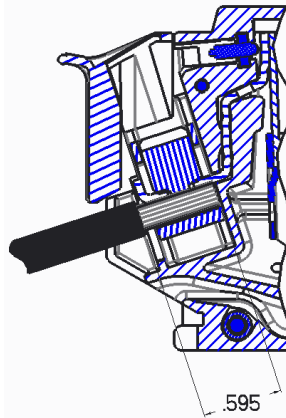

Figure 3: Stripped wire installed
6. Wire the circuit breaker to be used as main. Fig. 3
After stripping the wires to the required length, the wires can be installed as shown in Figure 3. The service barrier must be correctly installed to maintain electrical isolation from accidental contact. Torque the wires according to the torque specification on the breaker.